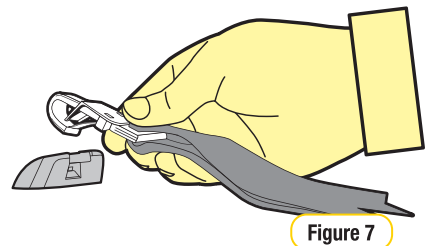

Figure 7
Step 6: Hook the attachment clip to the upper anchor fitting (refer Figure 7).